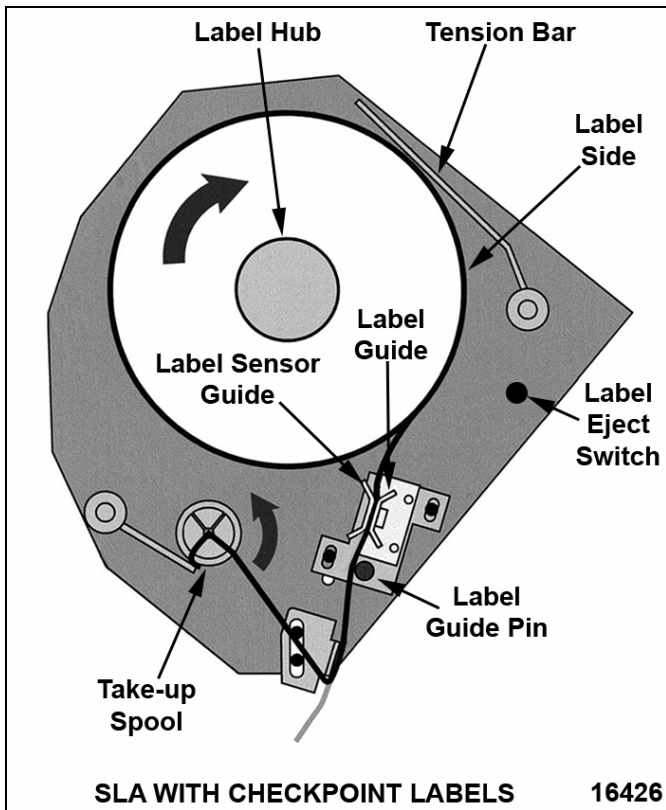
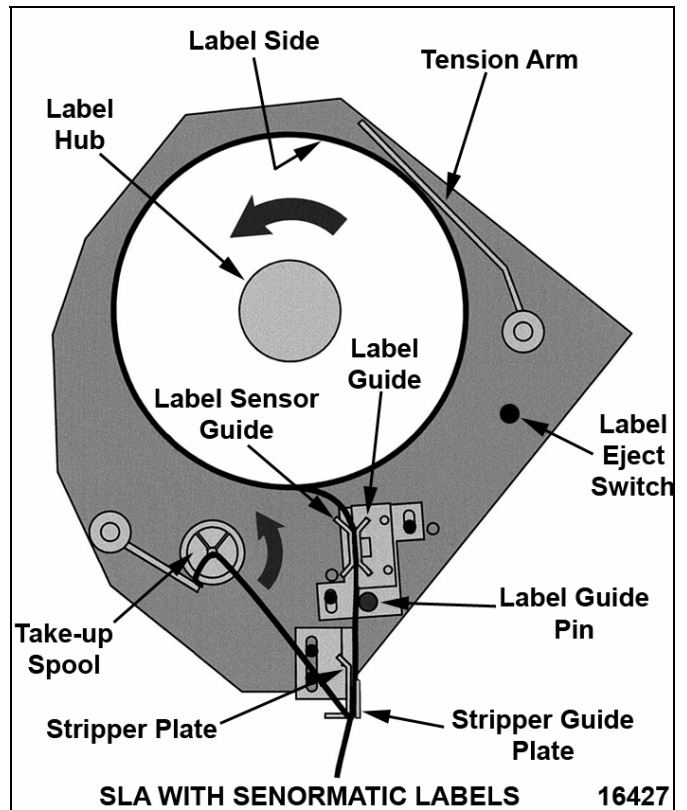
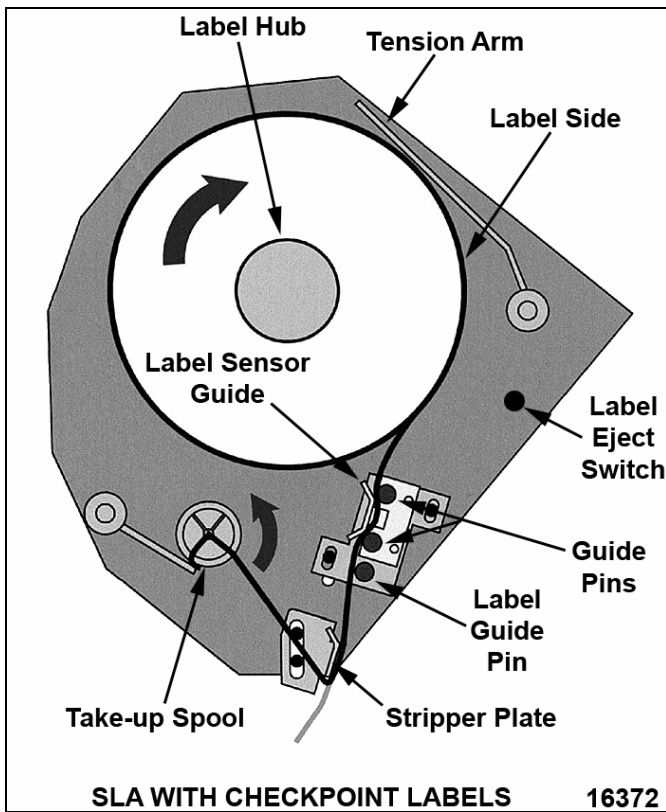
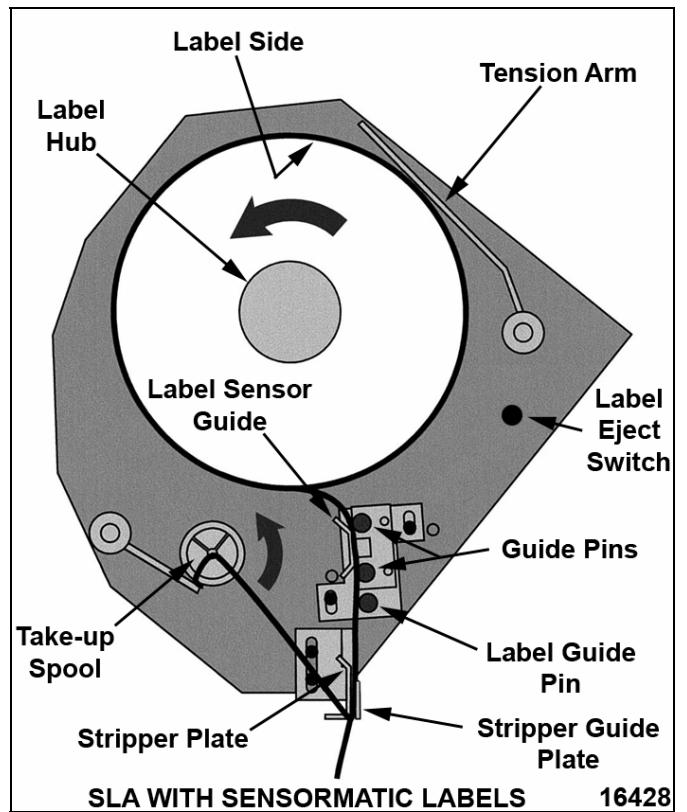

Fig 1
Fig 2
Fig 3
Fig 4
5. Thread the leader between the label sensor guide and the label guide as shown in Fig 1 and 2. On the early model SLA, thread the leader between the label sensor guide and the 2 guide pins as shown in Fig 3 and 4.
7. For Sensormatic labels, the leader should be threaded between the stripper plate and the stripper guide plate. Loop the end of the leader and thread through the slit in the stripper plate as shown in Fig 2 or Fig 4. For Checkpoint labels, the leader should be threaded around the stripper plate as shown in Fig 1 or Fig 3.